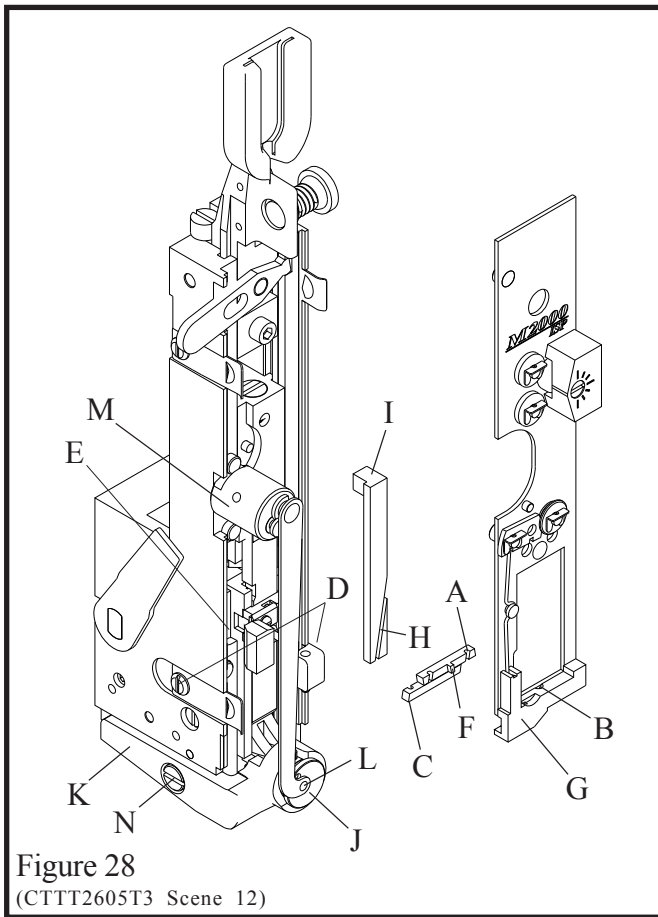

Figure 28
L. Wire Cutters: (Figure 28)
3. Lift end of spring (Index L, Figure 28) out of rotator.
5. Slip the rotator operating cam (Index M, Figure 28) forward and off the stud.
11. Remove the cutter operating slide (Index I, Figure 28).
O. Rotator (Figure 28)